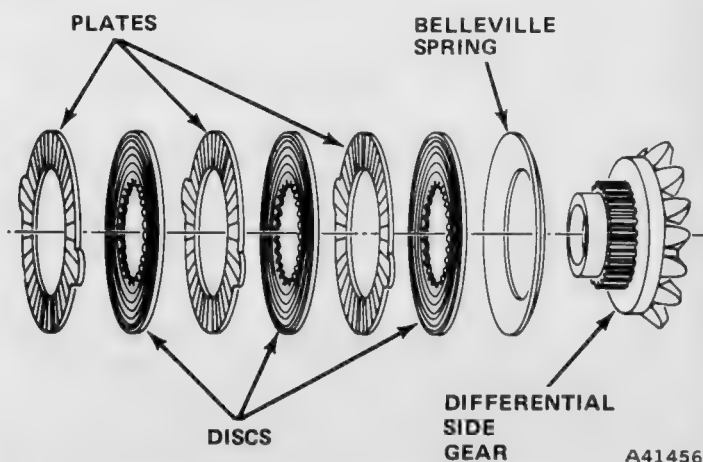

Fig. 2E-40 Clutch Pack Assembly Sequence
- (1) Lubricate all parts with AMC Rear Axle Lubricant, or equivalent limited slip axle lubricant.
- (2) Assemble clutch plates and discs on differential side gear splines (fig. 2E-40). Be sure to lubricate each part with specified gear lubricant.
- (3) Install retainer clips on clutch plate ears. Be sure clips are completely seated.
- (4) Mount differential case on axle shaft (fig. 2E-33).
- (5) Install one assembled clutch pack and side gear in case. Be sure clutch pack remains engaged in side gear splines and that retainer clips are completely seated in case pockets.